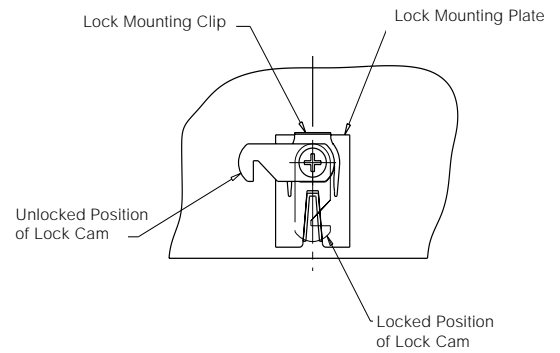

Figure 3
3. Install lock into lock hole with lock cam in unlocked position as shown in Figure 3.
4. Install lock mounting plate over the lock at the inside top of the door so that the plate rests flush with the inside surface of the door (see Figure 3).